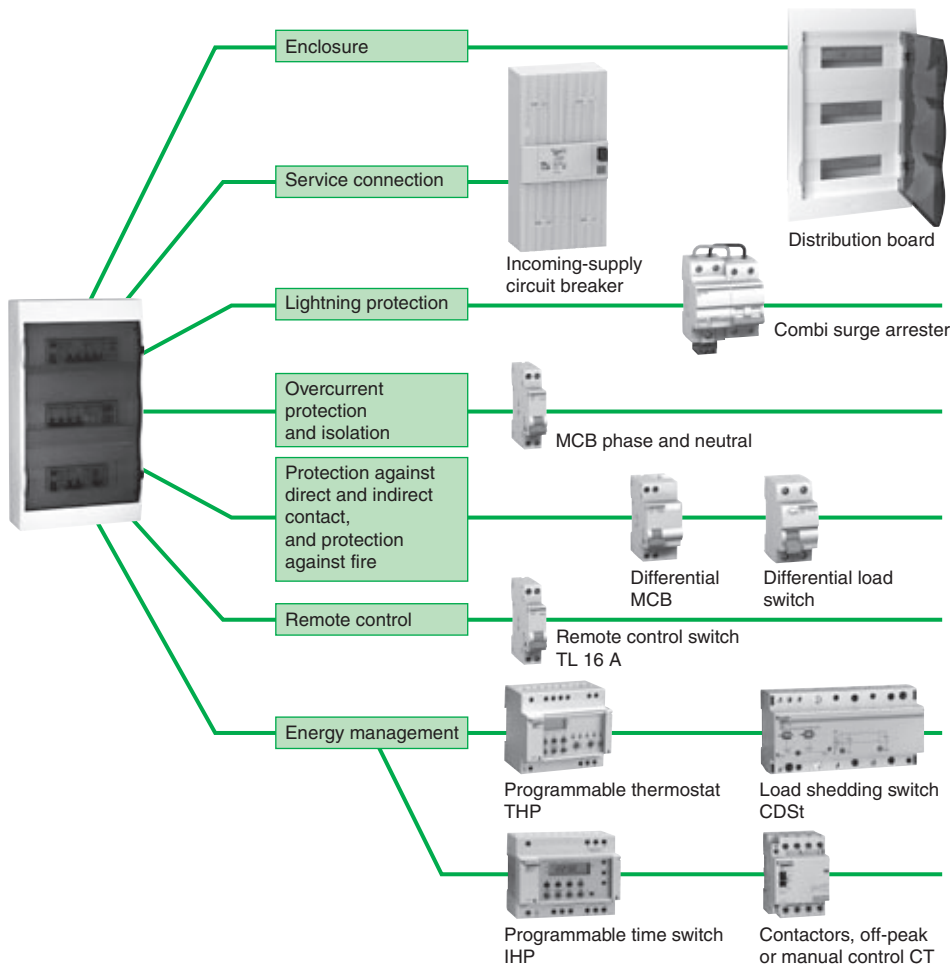

Fig. P1 : Presentation of realizable functions on a consumer unit
1.2 Distribution boards components (see Fig. P1)